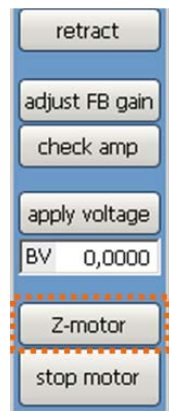

Figure 3.2.3
- Press the **Z-motor** button in the bottom of the **AC mode** (Fig 3.2.3) or **Contact mode** control panel to open the **Zmotor Ctrl** control panel (fig. 3.2.4). Move the scanner up from its lowest position to a few millimeters (e.g. 5-10 mm) using the **move** button on the **Zmotor Ctrl** panel (fig. 3.2.3). You can specify a required moving distance in millimeters using the **dist** input field. Positive values means moving up, negative down.
- Remove the scanner from the probe by pressing the “**new tip**” button on the **ZMotor Ctrl** panel (**fig. 3.2.3**).
Before setting up the registration system, make sure that the distance between the probe and a sample is more than 1 mm. The need for such a gap is that during the adjustment procedure the motion of the probe holder with set cantilever can result in a collision of the cantilever with a sample. Therefore, if the gap is less than 1 mm, move the scanner down by pushing the **New tip** button (see figure 3.2.3) on the **Z motor Ctrl** control panel (motorized sample positioning in vertical direction). The **Z motor Ctrl** control panel can be opened by clicking on the **Z motor** button on the **AC mode** or **Contact mode** panels.